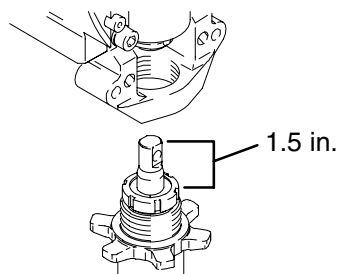

Fig. 18
1. Fig. 18. Pull piston rod out 1.5 in. Screw in pump until holes in bearing cross link and piston rod align.